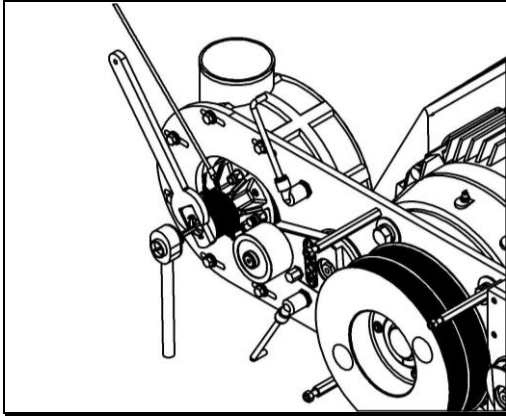

Figure 37 - Remove Blower Pulley
7. Remove blower pulley using a 1 1/8 inch open end wrench and a 3/16 inch allen wrench. (See Figure 37 - Remove Blower Pulley)